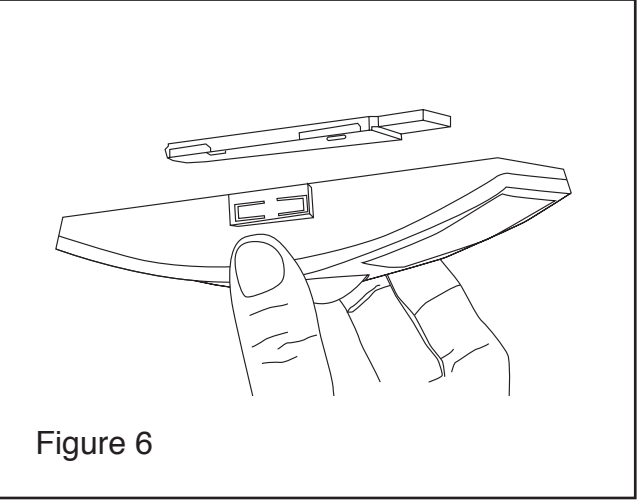

Figure 6
4. Attach the sensor to the mounting plate. With the 2-button interface facing you, slide the sensor to the left on the mounting plate until it snaps into place. (see figure 6)